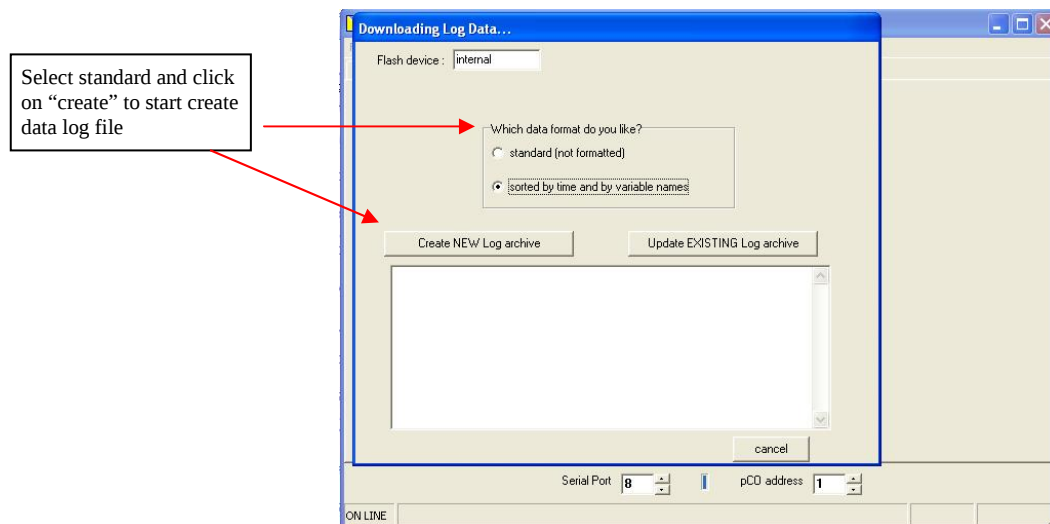

Figure 6.2.2
- iii. Enter the name of the file used to save the data downloaded from the controller. Each directory can only store 1 data log file. (Figure 6.2.2 & 6.2.3)